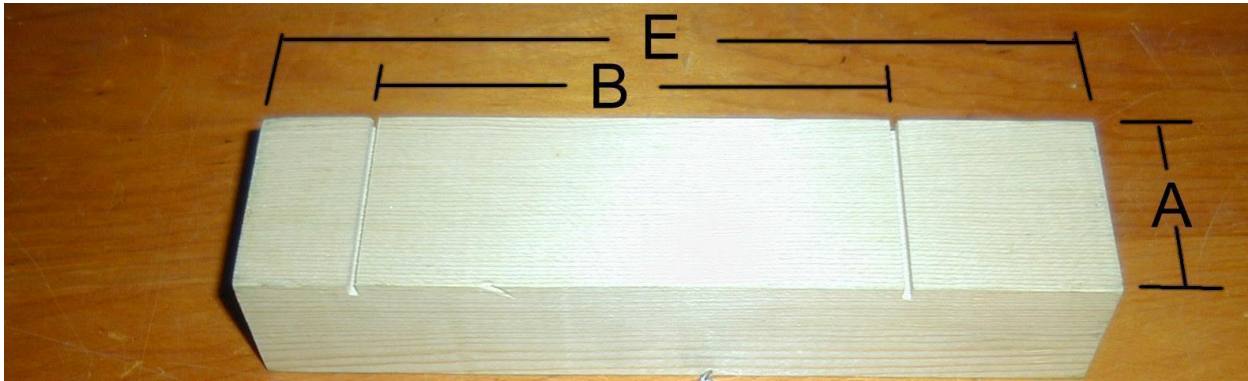
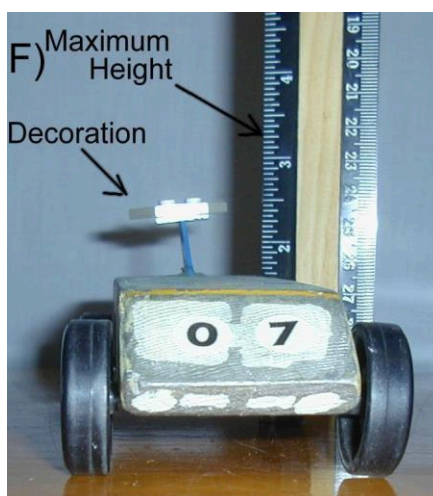

Figure 2: Block Dimensions
Figure 5: Maximum Car Height
- 3.1.1 The minimum width between wheels shall be 1 and 3/4 inches. (Figure 2: Dimension A)
- 3.1.2 The pre-cut axle locations in the official Pinewood Derby car block shall be used. The pre-cut axle locations provide a nominal wheelbase of 4 and 3/8 inches and shall be strictly followed. (Figure 2: Dimension B).
- 3.1.3 The maximum length of the car shall not exceed 7 inches (Figure 2: Dimension E).
- 3.1.6 The maximum height of the car shall not exceed 3 and $\frac{1}{4}$ inches from the bottom of the wheels. (Figure 5: Dimension F)
- 3.1.7 Any Decorative items mentioned in 1.15 and such shall be measured as part of the overall height of the car, (Figure 5: Dimension F), width Dimension (Figure 3: Dimension C) and length Dimension (Figure 2: Dimension E).